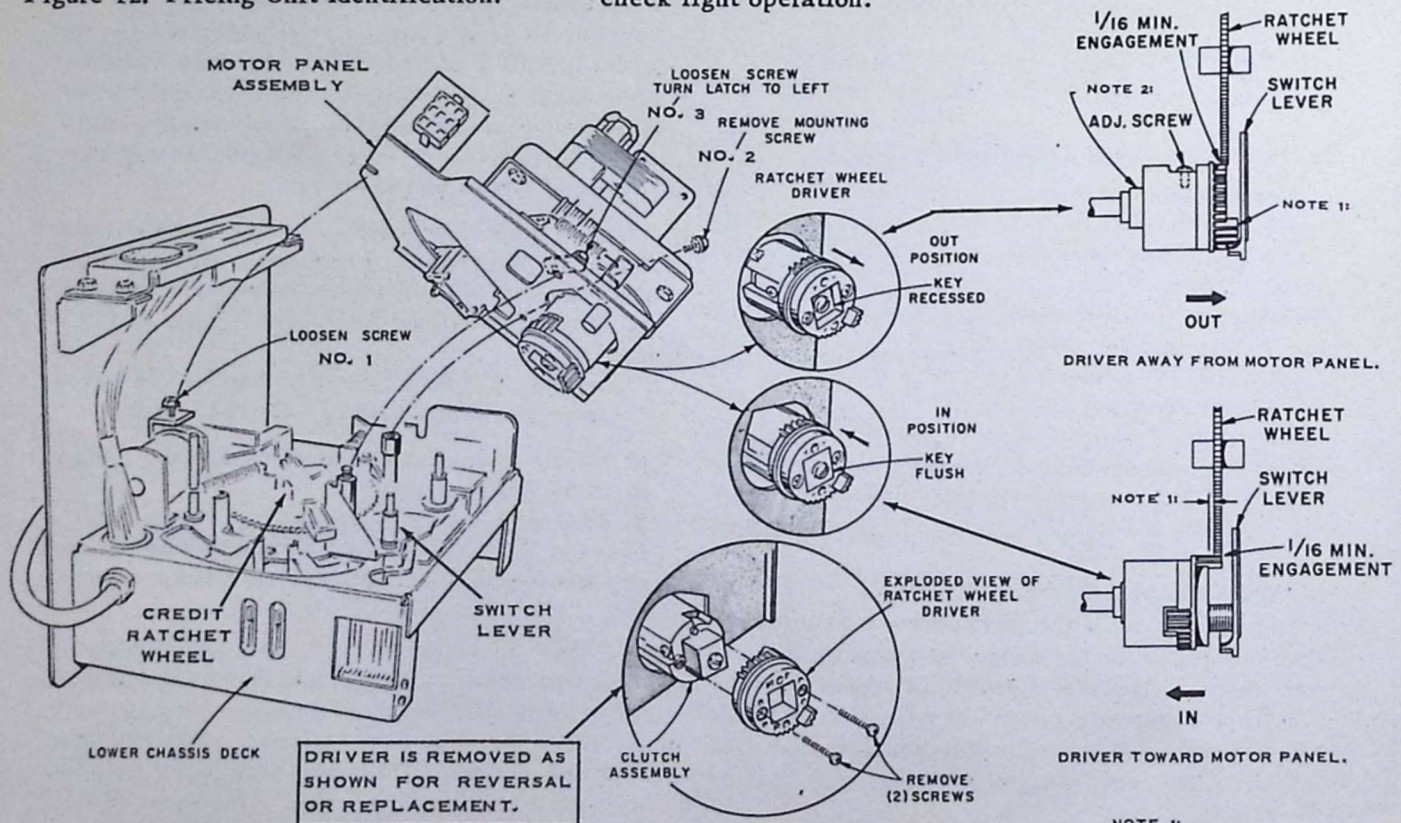

Figure 13. Motor Panel Disassembly
Remove the motor panel before proceeding with price change adjustments. Loosen screw No. 1, remove screw No. 2, loosen screw No. 3 and turn latch to the left as shown in Figure 13. Unplug the motor panel assembly and remove from the lower chassis deck.
** RATCHET WHEEL DRIVER "IN" AND "OUT" POSITIONS ARE ILLUSTRATED IN FIGURE 13. SIDES "A" AND "B" ARE IDENTIFIED IN FIGURE 14.